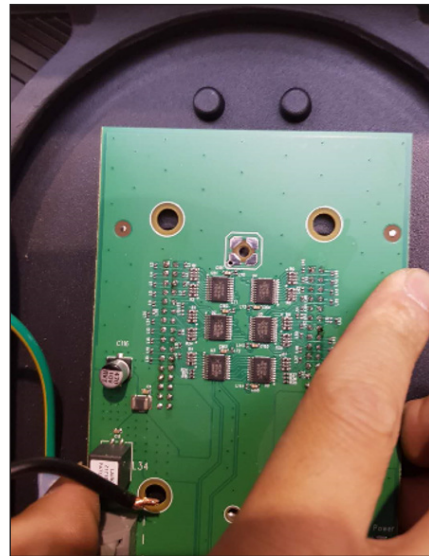

Figure 23: Line Up Pins on Hub Board
6. Line up the screw holes with the existing bosses so the pins on the hub board are correctly lined up before securing. Refer to **Figure 23**.